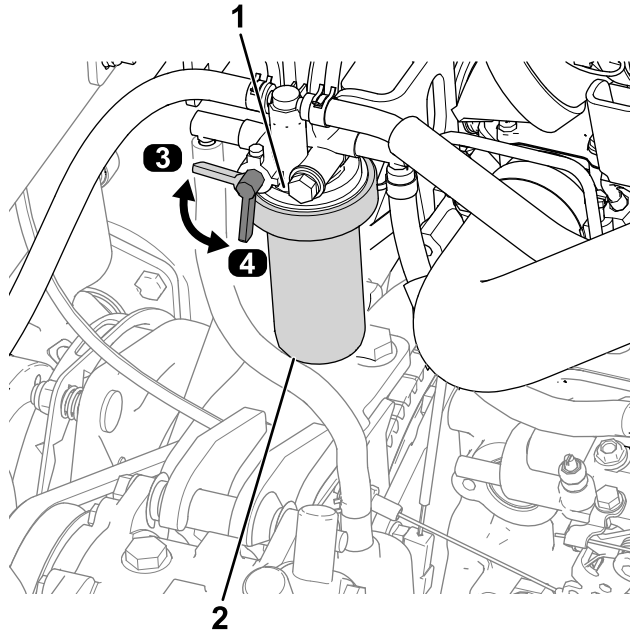

Figure 57
1. Rotate the fuel-valve lever to the OFF position (Figure 57).
2. Clean the area around the fuel-filter head (Figure 57).
3. Remove the filter and clean the filter head mounting surface (Figure 57).
6. Rotate the fuel-valve lever to the ON position (Figure 57).